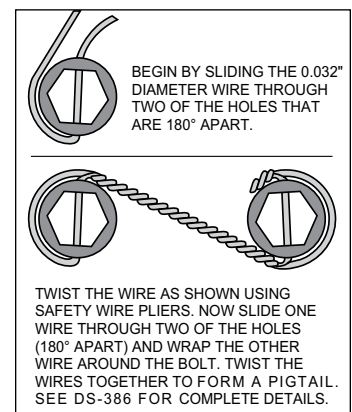

Figure 3.
- Install the grease seal (16) by pressing into the backside of the hub (14).
- With the larger I.D. side of the rotor (17) facing away from the hat (18), bolt rotor (17) to hat (18) through the backside of the rotor using washers (19) and bolts (20). Apply red *Loctite*® 271 to the bolt threads and torque bolts to 155 in-lb using a criss-cross pattern. For an added measure of security, the bolts may be safety wired using standard 0.032 inch diameter stainless steel safety wire as shown in Figure 3. Please refer to Wilwood's data sheet DS-386 (available at www.wilwood.com/Pdf/DataSheets/ds386.pdf) for complete safety wire installation instructions.